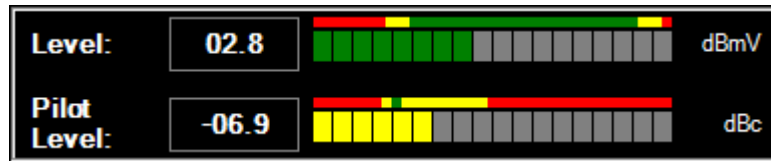

Figure 21. Digital Modulation Bar Graphs
1. **Digital Modulation Bar Graphs:** These three graphs display the exact same information that was previously described in the System Monitor tab (see Figure 21). However, there are no Pass / Fail / Warn color indications. The bars are always green.